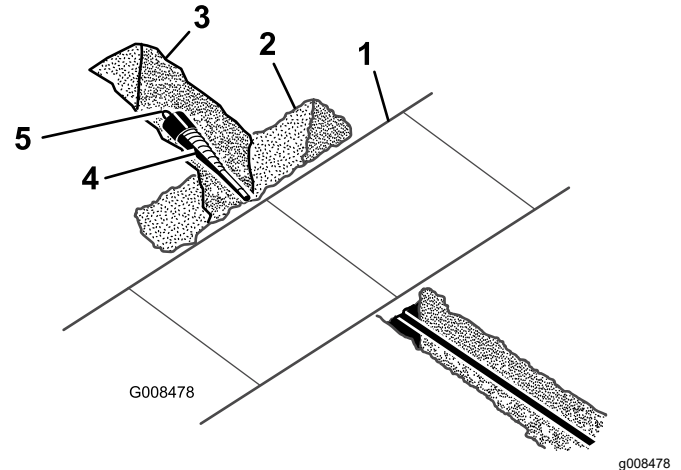

Figure 28
1. With a shovel, carefully dig around the boring bit, clearing it of soil until the bit can be removed (Figure 28).
2. Remove the boring bit and attach the reamer (Figure 28); refer to Installing an Accessory (page 14).
3. Attach the cable or piping being installed to the swivel on the end of the reamer (Figure 28).